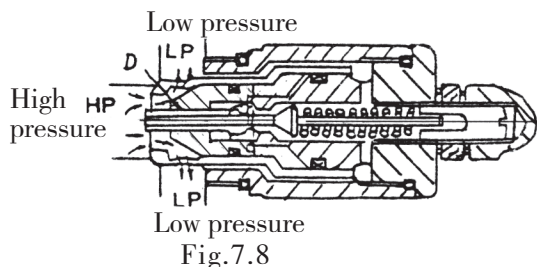

Fig.7.8
(4) Compared to the pressure at the cylinder port “HP” side, the inner pressure becomes unbalanced, causing the relief valve poppet “D” to open and thereby sending the oil directly to the low-pressure passage “LP”. (See Fig.7.8)